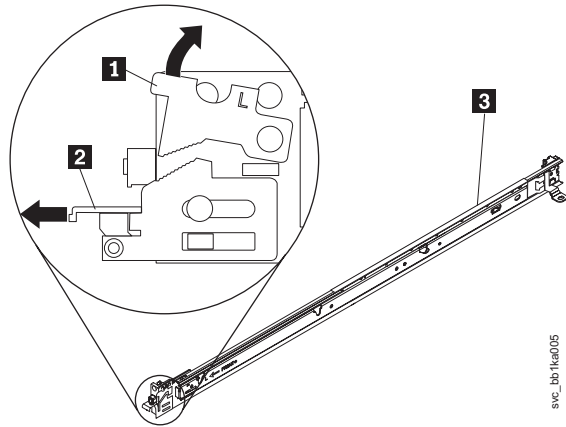

Figure 52. Installing the SAN Volume Controller 2145-CF8 slide rails on the rack
- a. Select one of the slide rails that is marked with either an R (right) or an L (left), as shown in Figure 52.